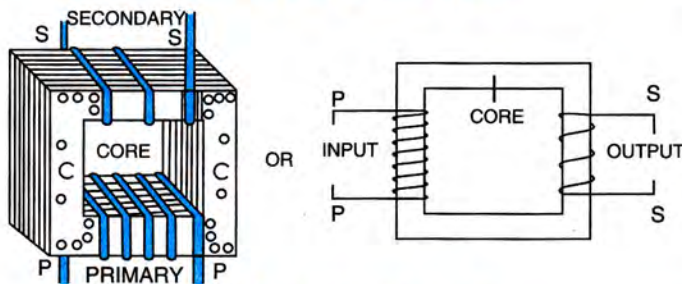

Fig. 10.37 Step down transformer
- (2) **Step down transformer :** The transformer used to change a high alternating voltage to a low alternating voltage (of same frequency) is called a step down transformer ($E_s < E_p$). In a step down transformer, the number of turns in the secondary coil are less than the number of turns in the primary coil ($N_s < N_p$) i.e., turns ratio $n < 1$ as shown in Fig. 10.37. Since current in secondary coil is more than in the primary coil (i.e., $I_s > I_p$) so the wire in secondary coil is thicker than in the primary coil.